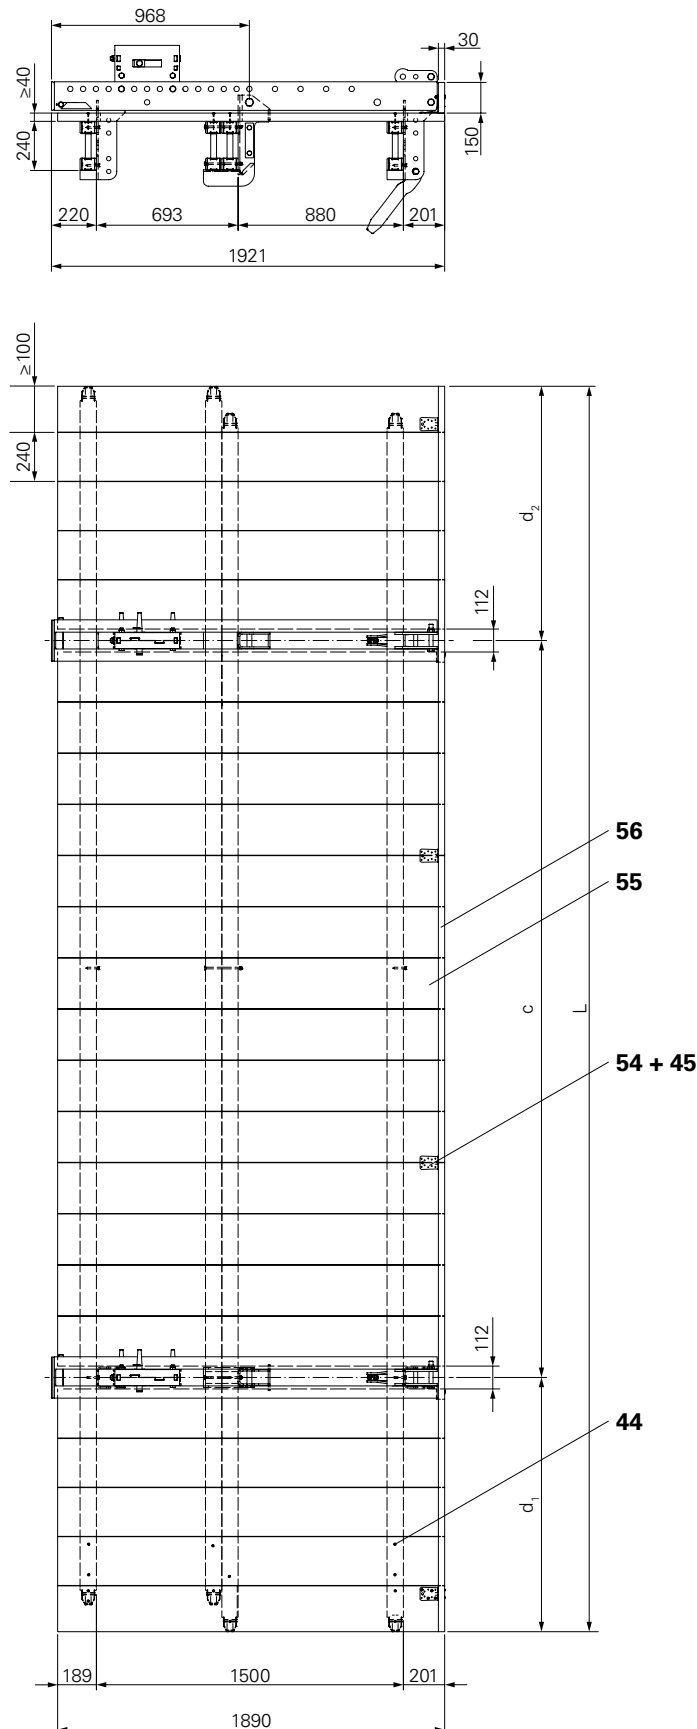

Fig. B1.01
- Bracket spacing  $c$  and cantilevers  $d_1$  and  $d_2$  as well as the total length  $L$  are specified in the planning details. (Fig. B1.01)